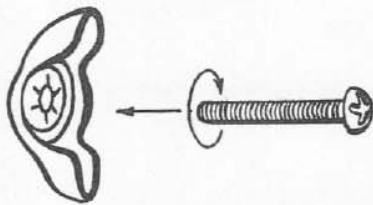

Figure 2
- Make 4 speaker screw assemblies (Figure 2) by carefully turning the machine screws into the wing nuts as shown.